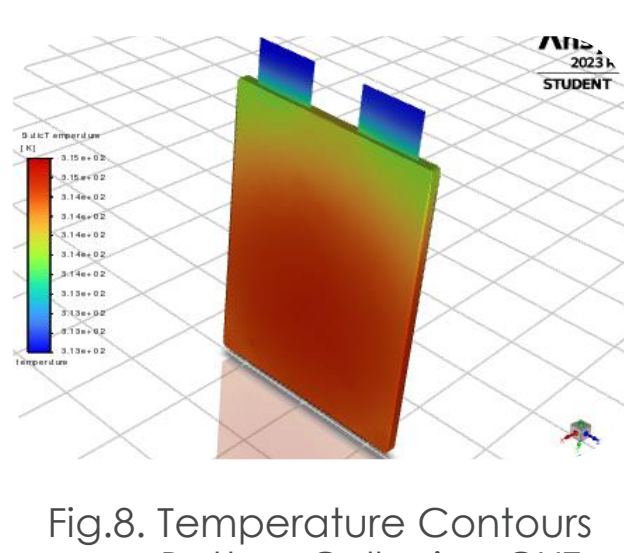
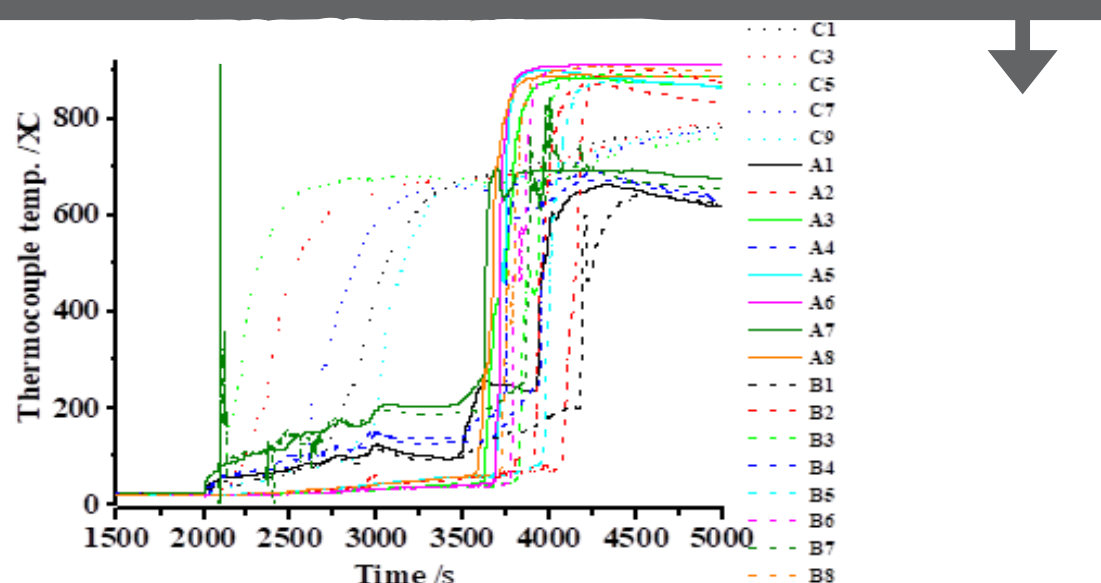

Fig.8. Temperature Contours on a Battery Cell using CHT Analysis
Fig.9. Graph of recorded data: thermocouple temperature against flow of time
- The results can be visualised in a variety of ways, e.g., by creating temperature contours (Fig.8.) and temperature vs. time plots (Fig.9.).